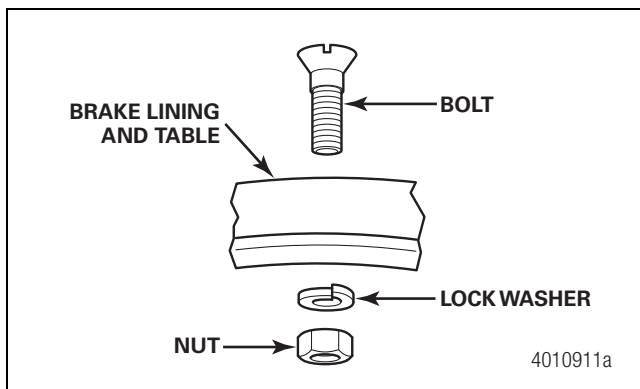
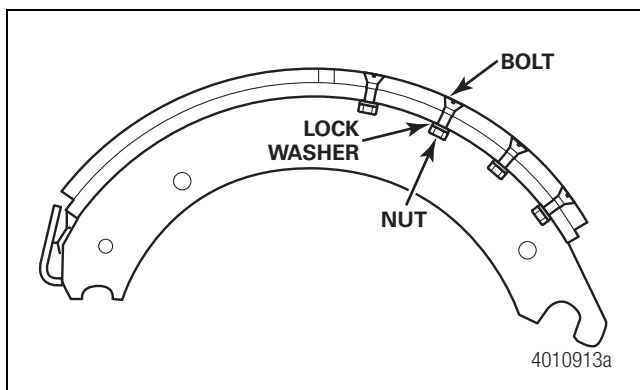

Figure 8.19
Figure 8.20
3. Install all of the bolts through the block and the shoe table. Install the lock washers and nuts. Tighten all fasteners finger tight. Figure 8.19 and Figure 8.20.